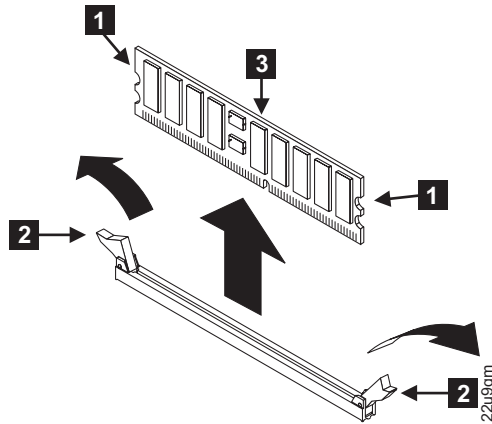

Figure 85. Removing the memory modules
4. Open the clips **2** by pressing them outward. This action pulls the memory module **3** out of the connector. See Figure 85.